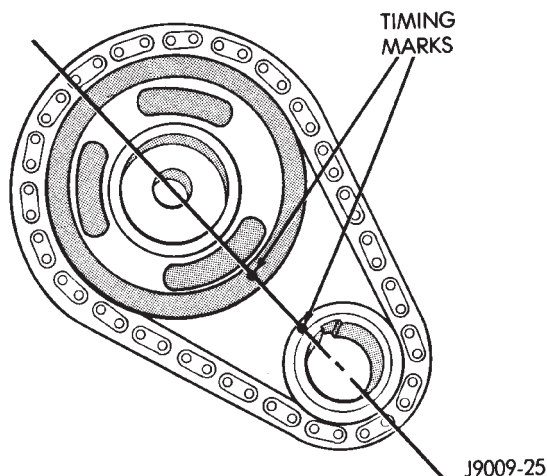

Fig. 41 Crankshaft—Camshaft Alignment
- (1) Disconnect negative cable from battery.
- (2) Remove the fan and shroud.
- (3) Remove the serpentine drive belt.
- (4) Remove the crankshaft vibration damper.
- (5) Remove the timing case cover.
- (6) Rotate crankshaft until the "0" timing mark is closest to and on the center line with camshaft sprocket timing mark (Fig. 41).
crankshaft, camshaft sprockets and timing chain. Ensure the timing marks on the sprockets are properly aligned (Fig. 41).